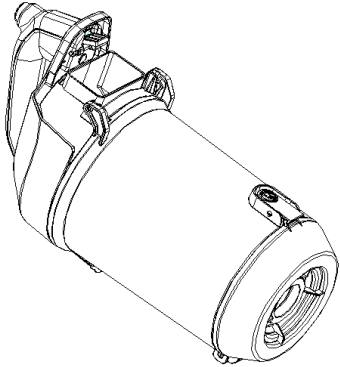

Fig.16
- 3) As in fig.16, rotate the HEPA cover to separate it from the dust cup cover